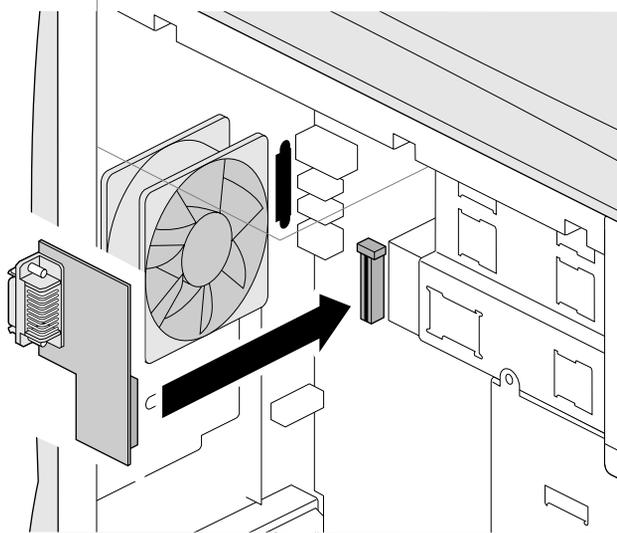

Figure 5-6 Installing the Display Option Card
- Position the board so the connector on the bottom faces the port on the system board and the connector on the edge faces the opening in the back panel (see Figure 5-6).